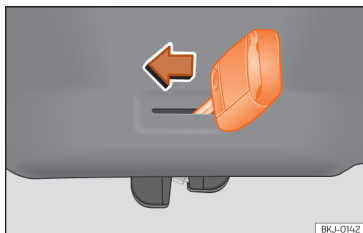

Fig. 9 Unlocking the rear lid manually.
- Insert the key in the groove and unlock the locking system, turning the key from right to left, as shown by the arrow »» Fig. 9.